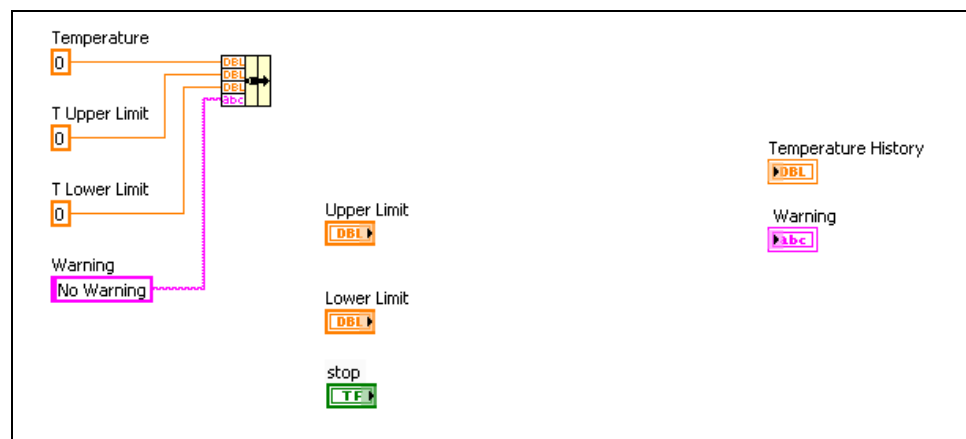

Figure 4-24. Weather Station UI Block Diagram
In the following steps, build a block diagram similar to that shown in Figure 4-24.
- Wire the constants to the Bundle function as shown in Figure 4-24.